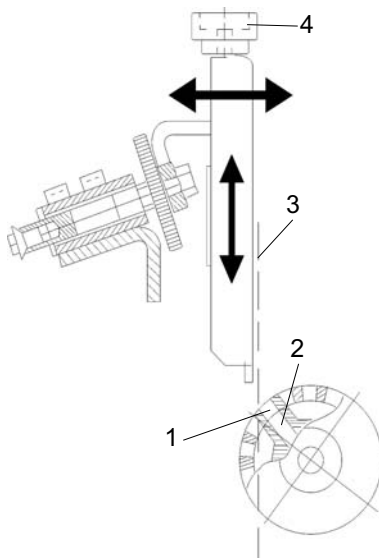

Fig. 11 Front paper stop
The position of the front paper stop (Fig. 11) can be adjusted in a horizontal and vertical direction.
1. Turn the handwheel until the openings of the suction drum (Fig. 11/1) are exactly above the openings of the suction segment (Fig. 11/2).
2. Adjust the horizontal position of the front paper stop in such a way that it forms a vertical line (Fig. 11/3) with the leading edge of the suction openings. To achieve this, turn the knurled screw (Fig. 11/4) counter-clockwise or clockwise.
3. By turning the knurled screw (Fig. 11/4), adjust the vertical position of the paper stop in such a way that only one sheet is pulled off the stack.